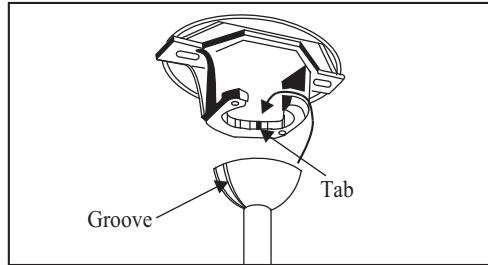

Figure 10
4. Carefully lift the fan assembly up to the ceiling mounting bracket and seat the hanger ball in the mounting bracket socket. Make sure the tab on the mounting bracket socket is properly seated in the groove in the hanger ball. (Figure 10) This will help to balance the ceiling fan.
THE TAB IN THE RING MUST REST IN THE GROOVE OF THE HANGER BALL AS FIGURE 10. FAILURE TO PROPERLY SEAT THE TAB IN THE GROOVE COULD CAUSE DAMAGE TO WIRING.